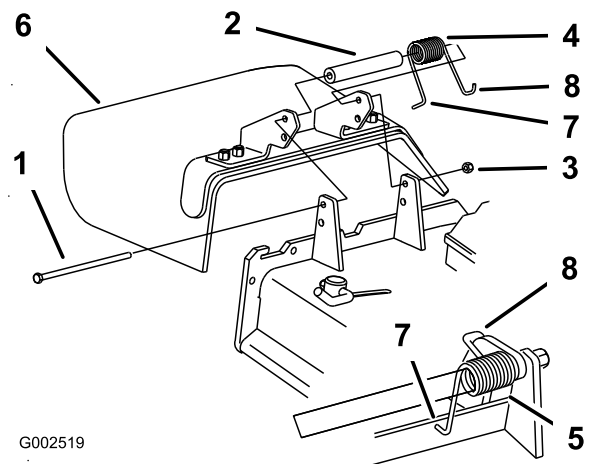

Figure 88
1. Remove the locknut, bolt, spring and spacer holding the deflector to the pivot brackets (Figure 88).
Note: Make sure the **L** end of the spring is installed behind the deck edge before installing the bolt as shown in Figure 88
5. Place the **J** hook end of the spring around the grass deflector (Figure 88).